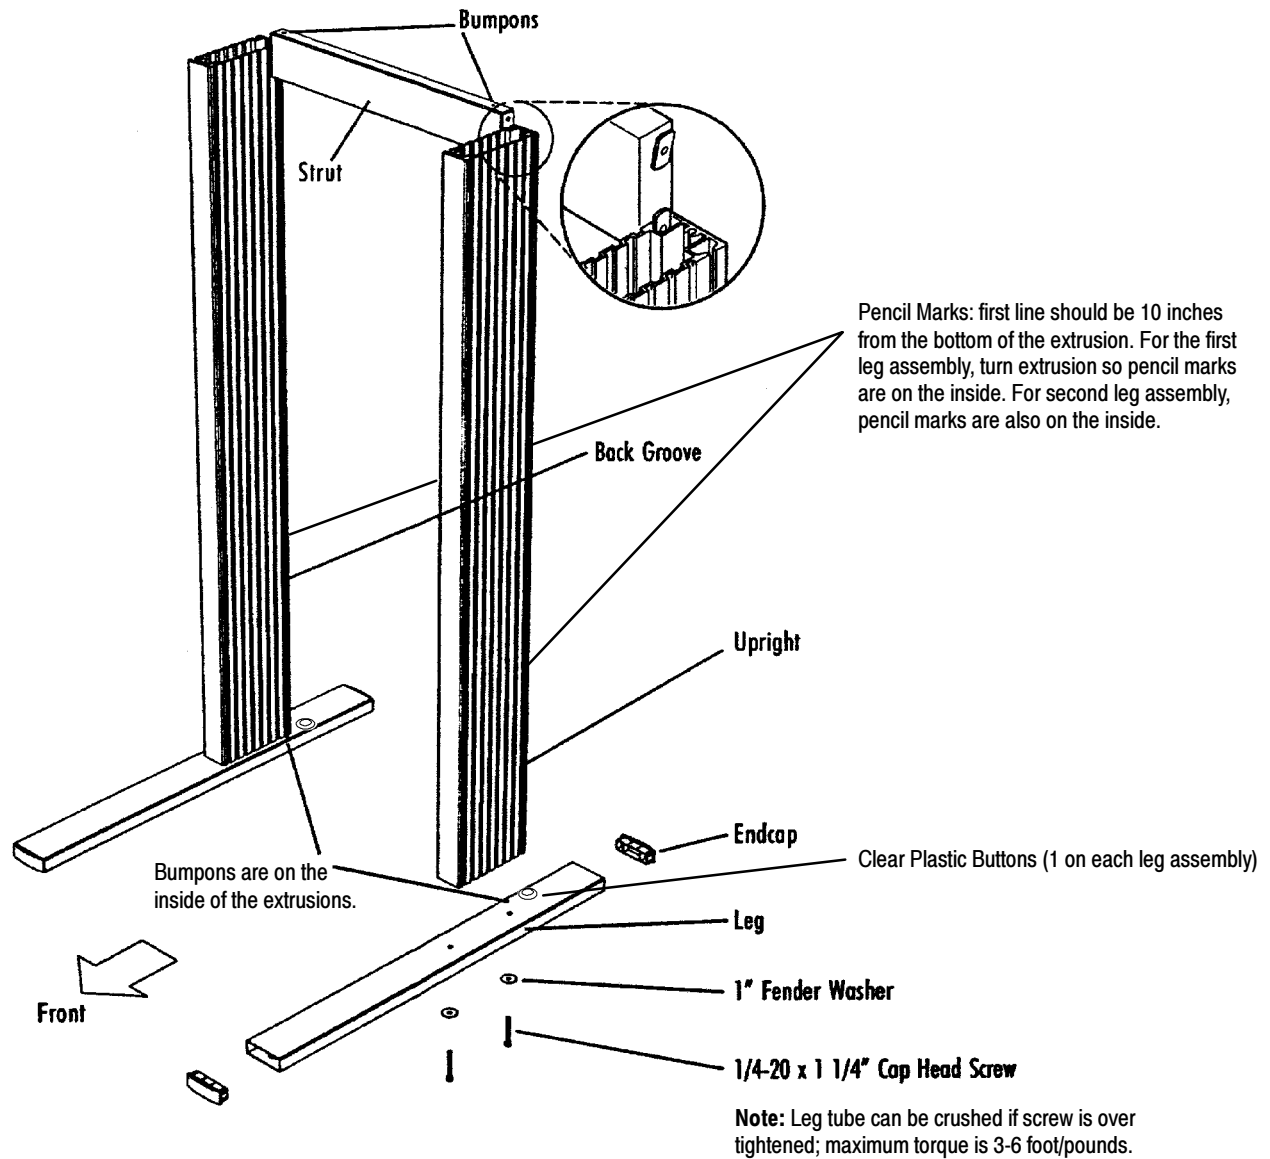

Figure 4: Aligning the Leg Assemblies and the Strut
2. On each leg assembly, observe that there is a small, clear, plastic button on the horizontal leg bar. This button is on the inside of the cart, at the back. Position the leg assemblies as shown in Figure 4. Leave a space between the leg assemblies about equal to the length of the strut.
7. Position the strut horizontally between the leg assemblies, as shown in Figure 4, with the open side of the strut to the back. Line up the weld nuts with the back groove in the leg assemblies.